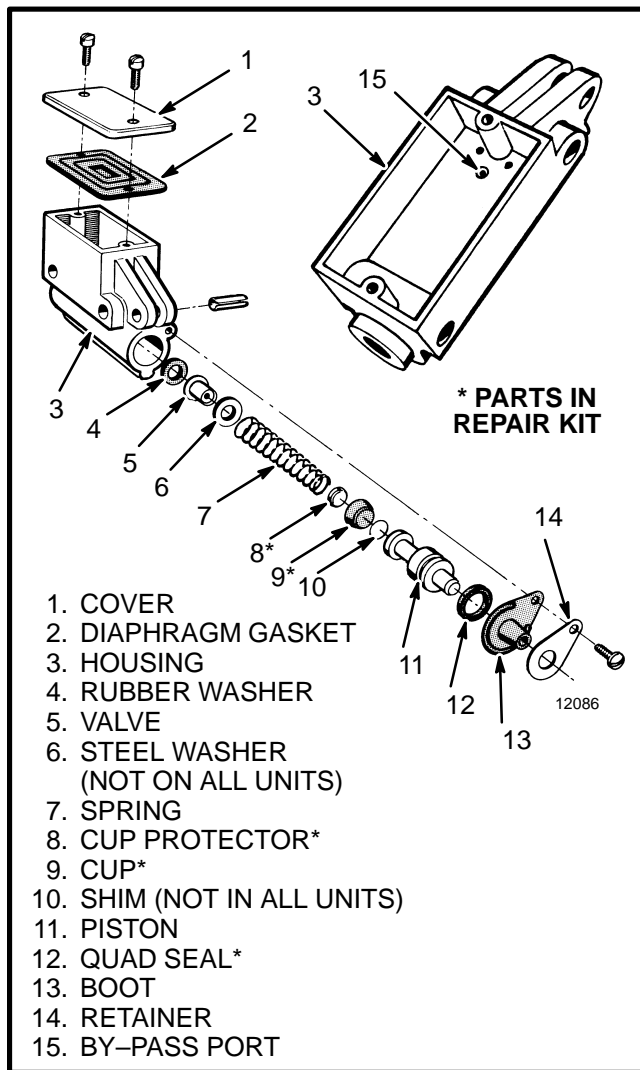

FIGURE 5. MASTER CYLINDER
#### Cleaning And Repair, Master Cylinder (See FIGURE 5.)
3. Remove the parts shown in FIGURE 5. Make sure the rubber washer is also removed from the bore. Clean the reservoir and all metal parts. Use a 0.38 mm (0.015 in) diameter wire to make sure the by-pass port has an open orifice. See FIGURE 5. Check the bore for wear and damage (scratches or holes). If the bore is worn or has damage, replace the master cylinder. If any parts are damaged and are not in the kit, replace the master cylinder.
4. Keep all parts clean. If the bore and parts are in good condition, lubricate the bore and all parts with clean brake fluid. Install the parts as shown in FIGURE 5. If there is a shim (FIGURE 5.) make sure to install this shim. Install new parts (\*) from the repair kit. Install the diaphragm gasket and cover to keep the reservoir clean. Make sure to install a cap at the brake line port.